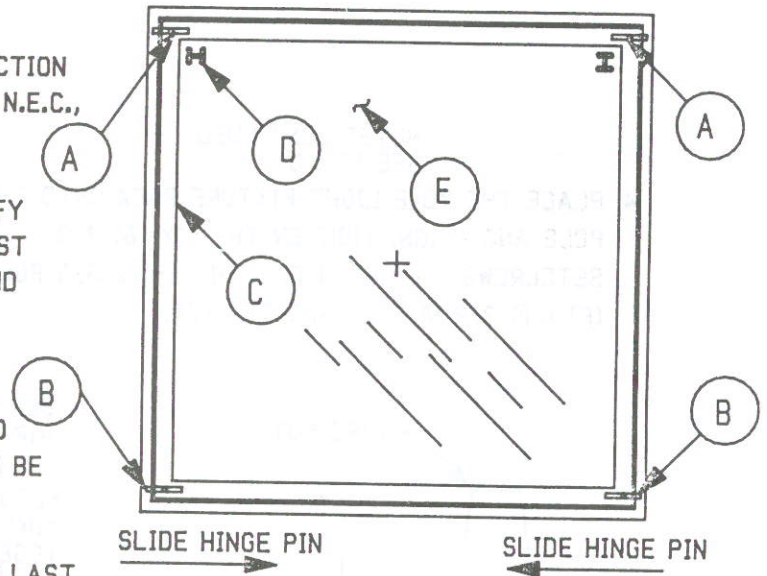

FIG. 1
1. OPEN DOOR (C) BY SLIDING TWO (2) LATCH PINS (A) OR (B) INWARD AS INDICATED IN FIG.1. NOTE THAT THE DOOR CAN BE FULLY REMOVED BY SLIDING FOUR (4) LATCH PINS (A&B).
2. TO GAIN ACCESS TO THE INSIDE OF THE FIXTURE AND BALLAST, TWIST TWO (2) FASTENERS (D) 90° AND PULL REFLECTOR PANEL (E) OPEN. SEE FIG. 1.